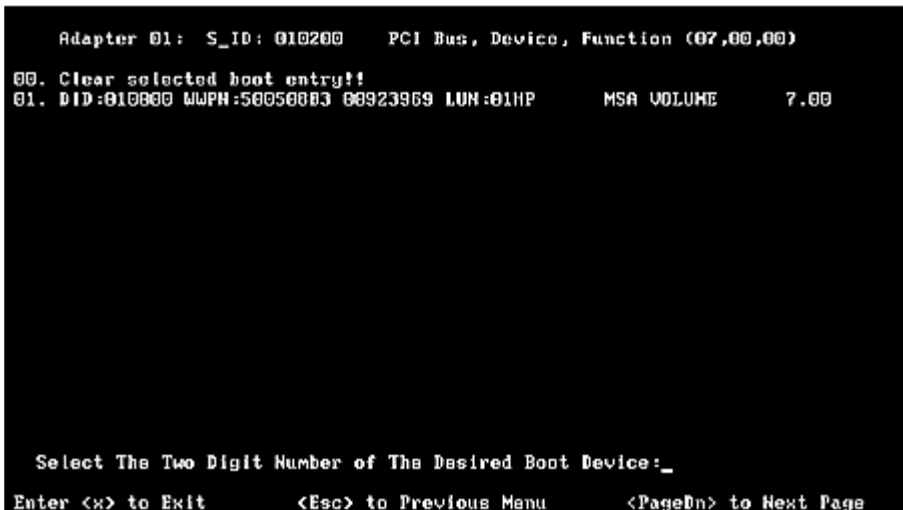

Figure 4: Device Selection list Example (Array) screen
2. Select a boot entry. Figure 4 is displayed.